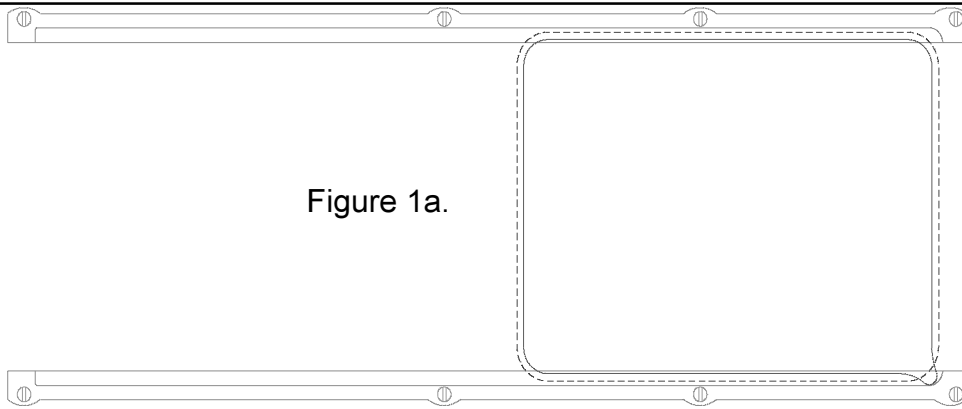
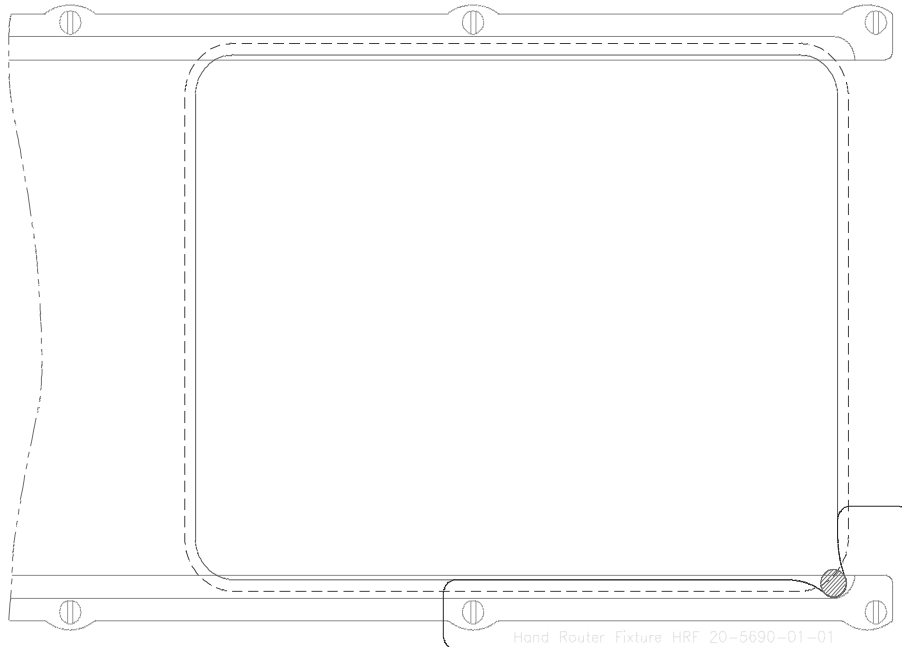

Figure 1a.
Figure 3.
- 10.1 Determine the trough style installed on the aircraft, either Figure 1a or 1b.
- (a) the drill must be dressed as shown in Figure 3 and,
10.3 If the window style shown in Figure 1a then the modification is as per Figure 3. A template of the router fixture is depicted in Figure 9, page 6 which locates on the two forward trough screws. Fashion a routing template based on the attached drawing. Locate the the template on the two forward screws and using a 1/16" or 1/8" tapered router bit route the canopy as shown in Figure 3 using the template as a guide. Carefully remove any sharp edges with a small round file.